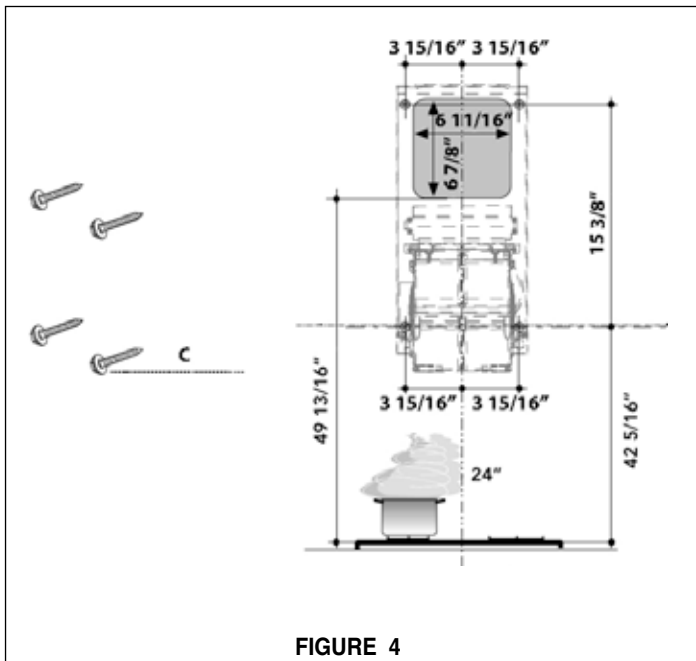

FIGURE 4
NOTE: The installation diagram in FIGURE 4 on the next page is used for the recommended installation height of 24" off the cooktop. For maximum installation heights of up to 30" off the cooktop, add onto the horizontal line of 42 5/16" in FIGURE 4. For example add 6", or 48 5/16" total, to install 30" off the cooktop.
3. Draw a Horizontal line at a minimum of 42 5/16" above the Cooktop, see (FIGURE 4 for reference)